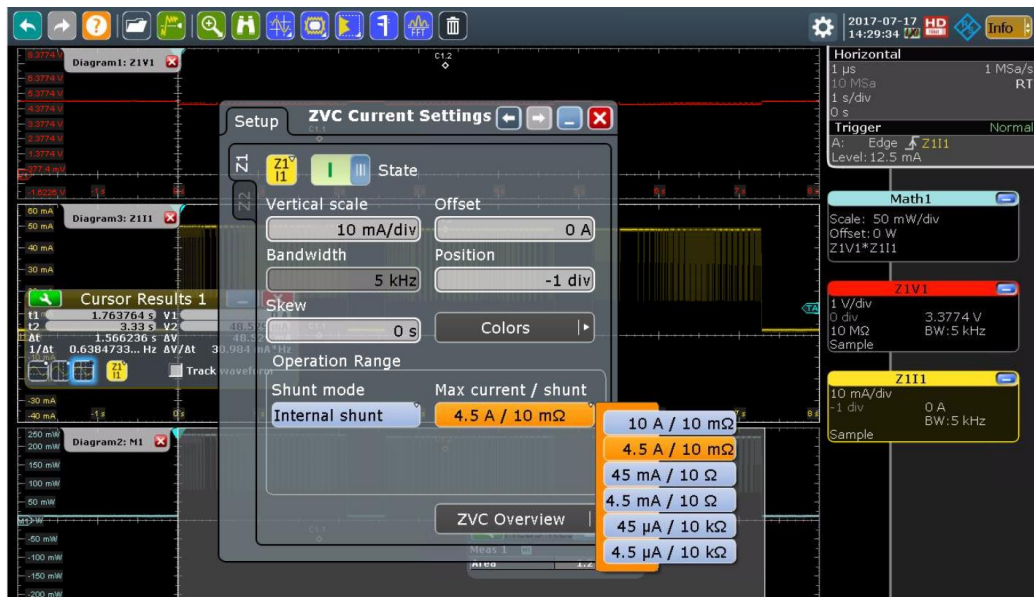

Fig. 5-4: Current Measurement configuration on the RTO
- ▶ Configure ZVC Current Settings as shown in Fig. 5-4